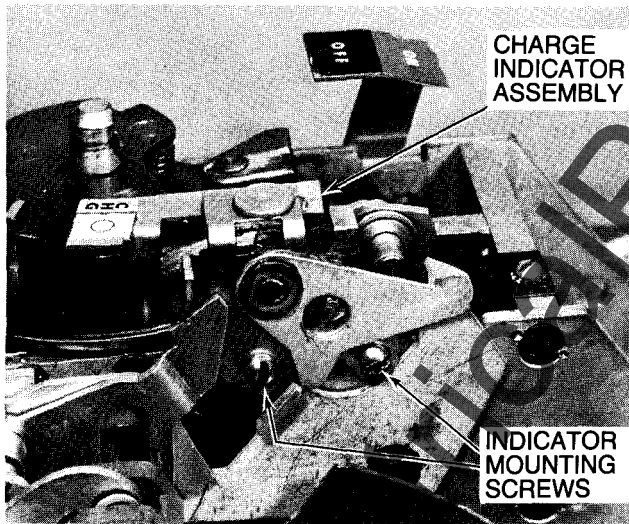

Figure 6.
4. Remove the charge indicator assembly by removing the (2) mounting screws, and lifting it out. Figure 6.
1. Install the cam through the upper pivot block and lower support holes making sure the (2) shim washers are located just below the cam plate.
3. Wedge the ejector against the stop on the cam assembly top plate as shown in Figure 6 and holding the locknut with a  $\frac{9}{16}$ " socket wrench, use an adjustable wrench to rotate the cam shaft clockwise until it is just snug, then back off  $\frac{1}{4}$  turn. Remove the ejector blocking means.
4. Reinstall the charge indicator assembly. See Figure 6.